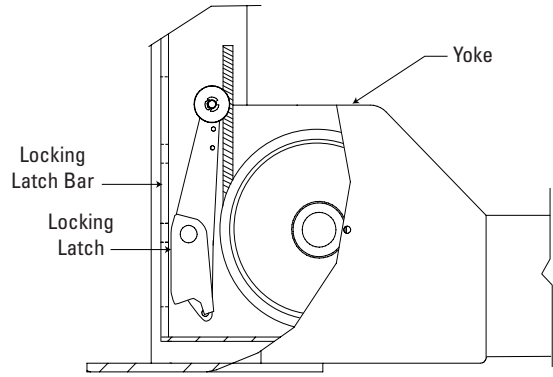

Fig. 28
- I. Actuate air valve and check latch operation on all four corners. The locking latches should pull in beyond yoke ends to clear the latch bars located in all four columns, Fig. 28.